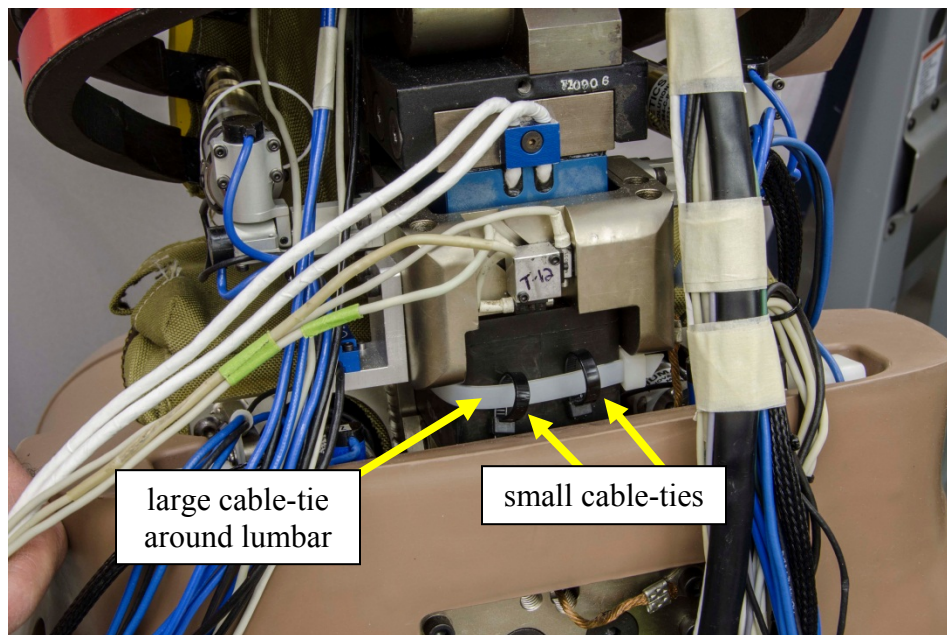

Figure 15-30. Install cable-ties to lumbar spine
15.4.3.3 If it is not already installed, loosely secure a large cable-tie around the lumbar spine and loop 2 small cable-ties around it as illustrated in Figure 15-30. Note that this step is easier to perform prior to installing the lumbar spine.